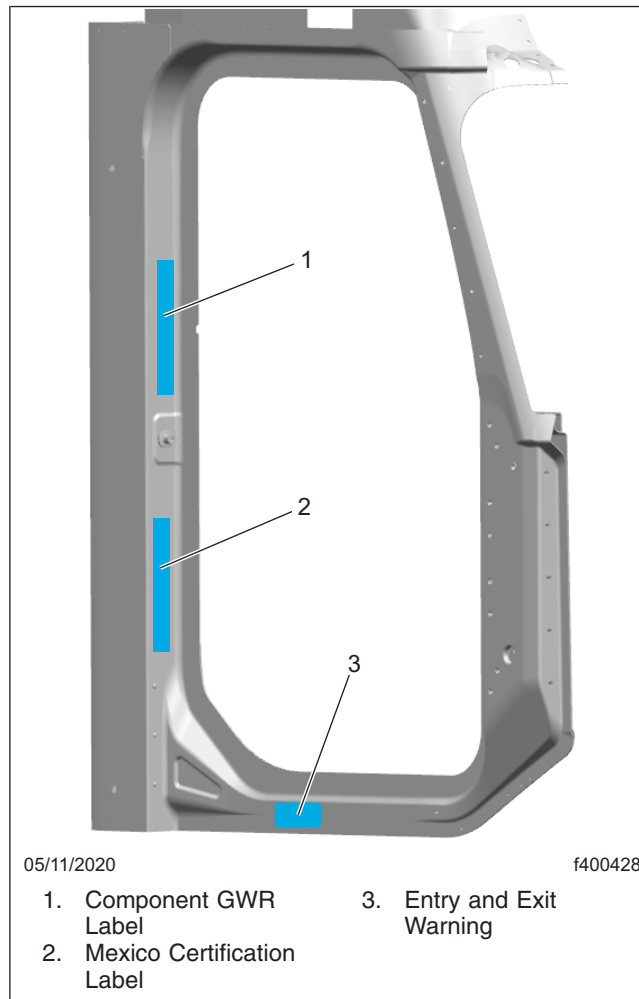

Fig. 4, Component GWR Label Location, Coronado
- Open the passenger side door, and locate the component GWR label. See Fig. 4. See Fig. 5 for an example of a Freightliner component GWR label.